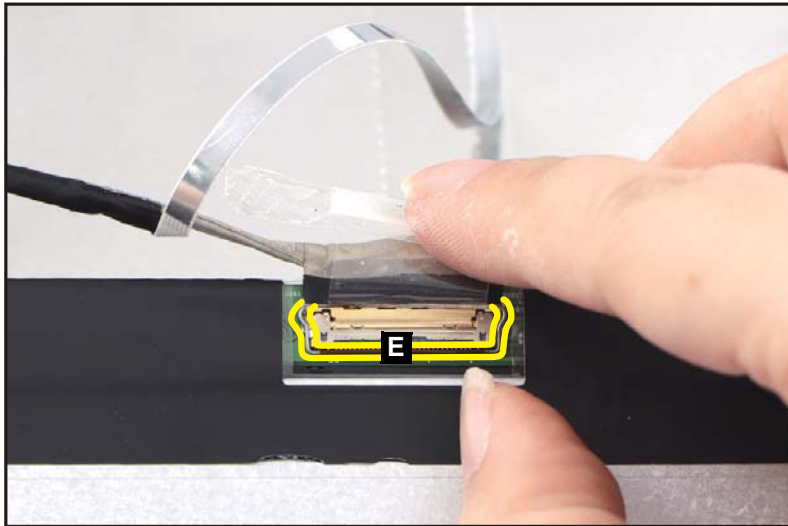

Figure 1-48. LCD Panel Removal
4. Lift the latch (E) securing the LCD cable (Figure 1-48).